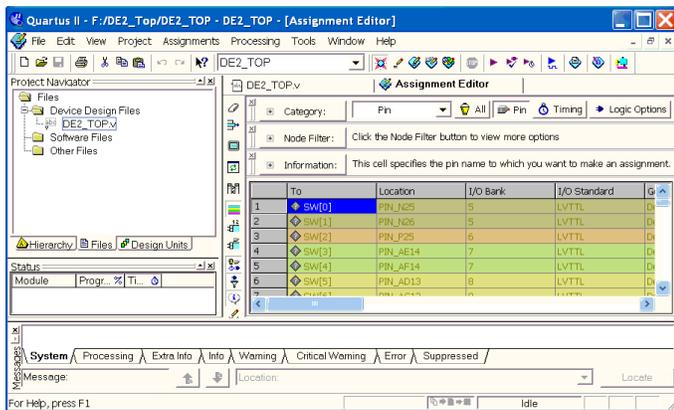

Figure 2: Assigning Pins Textually
*DE2\_TOP.qpf* is the top Quartus project file. To open the project file, use File→Open Project and select *DE2\_TOP*. Once the project is opened, you can see and change I/O pin assignments with Assignment→Assignment Editor→. Figure 2 shows this dialog.